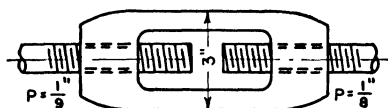

Fig. P 11.23
11.23. The turnbuckle (Fig. P 11.23) is to be turned without the use of a lever or wrench. Determine the mechanical advantage when: (a) the threads are the same hand, (b) the threads are of opposite hand.